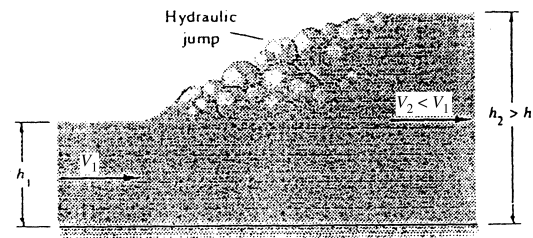

Fig. P3.102
**3.102** As can often be seen in a kitchen sink when the faucet is running, a high-speed channel flow ( $V_1, h_1$ ) may “jump” to a low-speed, low-energy condition ( $V_2, h_2$ ) as in Fig. P3.102. The pressure at sections 1 and 2 is approximately hydrostatic, and wall friction is negligible. Use the continuity and momentum relations to find  $h_2$  and  $V_2$  in terms of ( $h_1, V_1$ ).